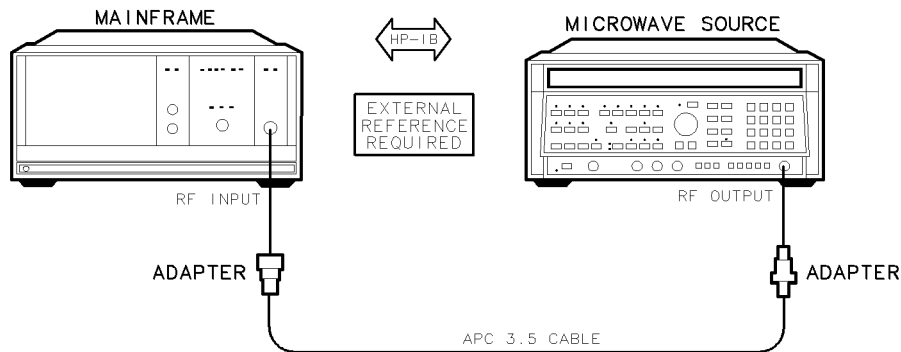

Figure 7-15. LO Span Accuracy (Phase-Locked Spans) Test Setup
1. Connect the HP 8340A/B synthesized sweeper RF OUTPUT to the DUT's RF INPUT using the adapters as shown in Figure 7-15. Refer to Figure 7-1 for system rear panel connections.